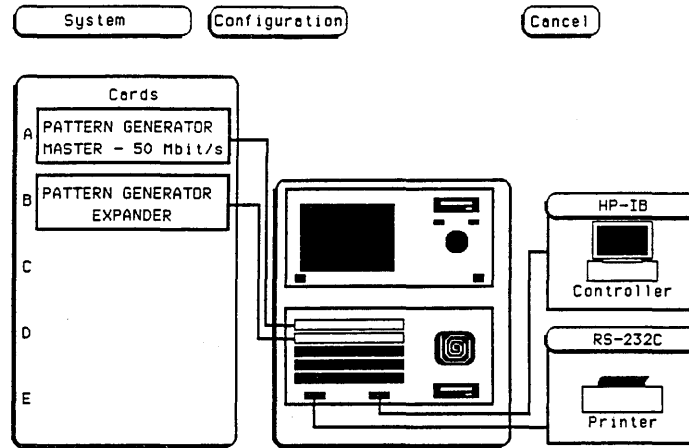

Figure 3-2. Startup Screen
c. From the startup screen shown in figure 3-2, touch the following fields in the sequence below: